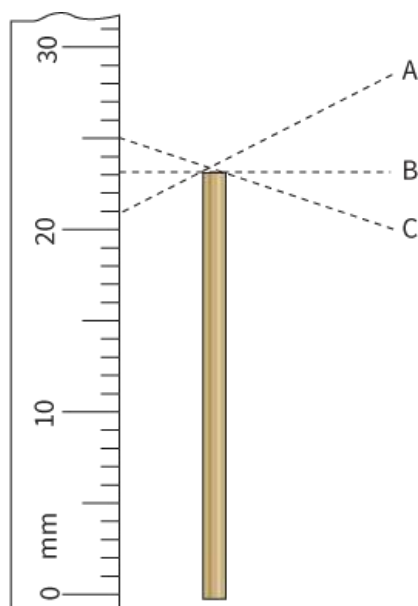
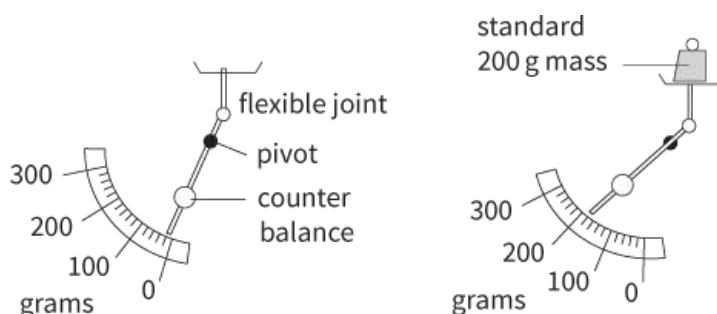

Figure P1.2: Parallax error.
Figure P1.8: The scales on a lever-arm balance.
If you use instruments incorrectly, you may introduce errors into your readings. For example, when taking a reading your line of sight should always be perpendicular to the scale that you are using. Otherwise, you will introduce a parallax error; this is shown in Figure P1.2. Looking from point A the length of the rod appears to be 21 mm, from point C it appears to be 25 mm and from point B, the correct position, the length is 23 mm.
Using the division on the scale - Look at the smallest division on the scale used for the reading. You then have to decide whether you can read the scale to better than this smallest division. For example, what is the uncertainty in the level of point B in Figure P1.2? The smallest division on the scale is 1 mm but is it possible to measure to better than 1 mm? This will depend on the instrument being used and whether the scale itself is accurate. In Figure P1.2, the width of the line itself is quite small but there may be some parallax error that would lead you to think that 0.5 mm or 1 mm is a reasonable uncertainty. In general, the position of a mark on a ruler can generally be measured to an uncertainty of ± 0.5 mm. In Figure P1.8, the smallest division on the scale is 20 g. Can you read more accurately than this? In this case, it is doubtful that every marking on the scale is accurate and so 20 g would be reasonable as the uncertainty.
- 4** Figure P1.8 shows a lever-arm balance, initially with no mass in the pan and then with a standard 200 g mass in the pan.